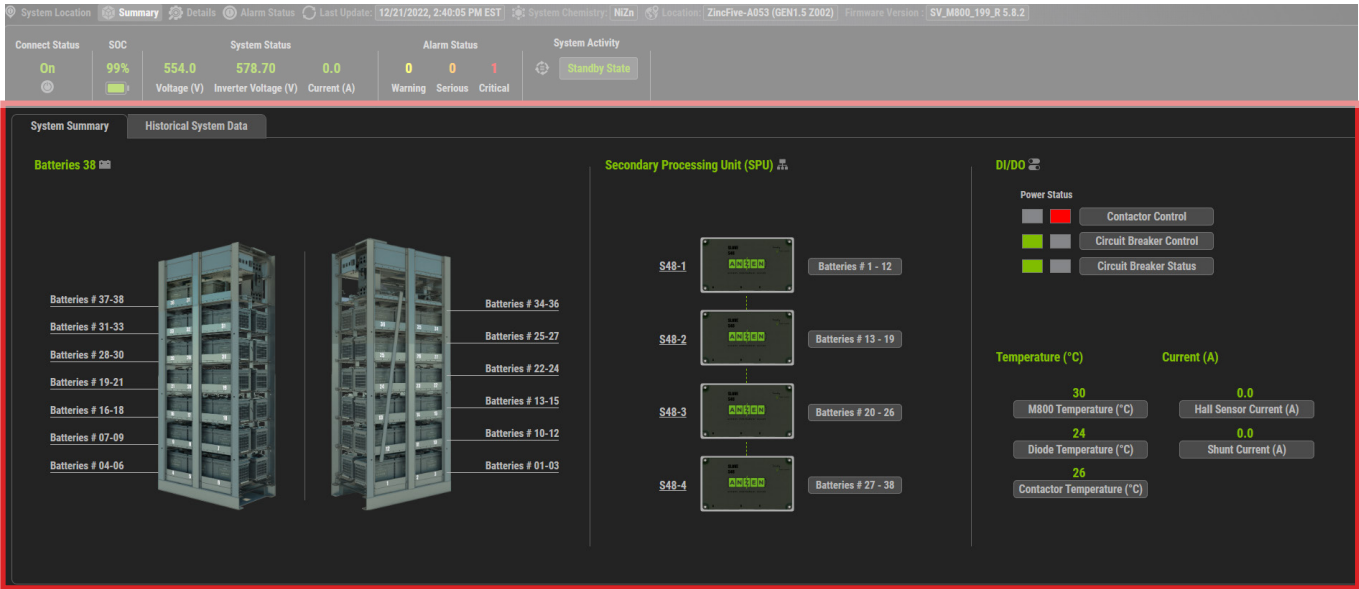

Figure 20 - System Summary Page.
- The bottom half of the **System Summary** page displays a graphic of the battery cabinet, a list of all the secondary processing units (SPUs), and status of the digital inputs/outputs (Fig. 20).